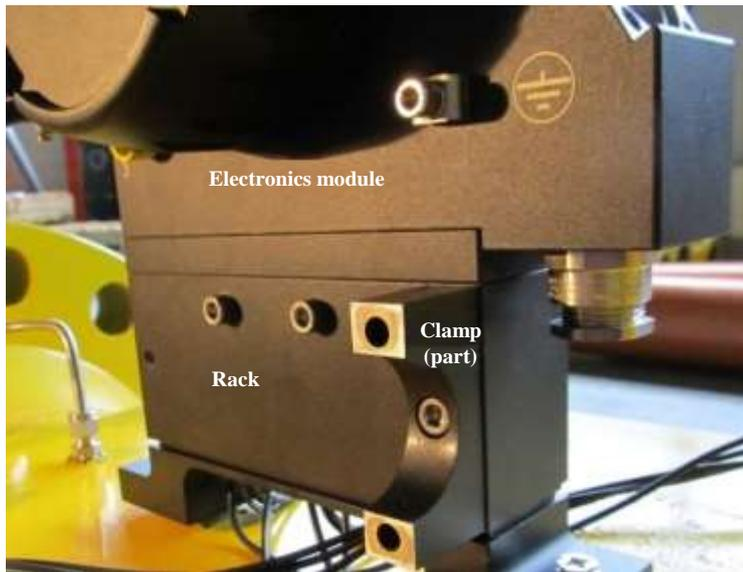

Figure 17
- part one (VMPL8.665.004) is attached to the electronics module rack (Figure 17);